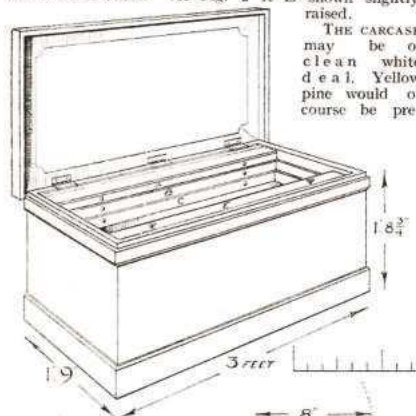
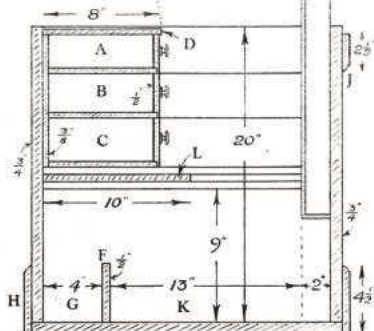

FIG. 1. TOOL CHEST. Size (approximately) 36 ins. by 21 ins. by 22 ins. high.
FIG. 2. CROSS SECTIONAL VIEW WITH DETAIL SIZES
From Fig. 1 (and more particularly from the sectional elevation, Fig. 2) it will be seen that there are three drawers, or tills (A, B, C), which slide forwards and backwards on runners. The top drawer has a hinged lid (D). The saw till (E) slides up and down inside the front of chest. At Fig. 2 it is shown slightly raised.
For the front and back two pieces (approximately 3 ft. by 1 ft. 8 ins., and  $\frac{3}{4}$  in. thick) will be jointed up to obtain the width. For the ends two pieces about 1 ft. 9 ins. by 1 ft. 8 ins. (also  $\frac{3}{4}$  in. thick) are required. These four sides, after squaring up, are dovetailed together, the dovetail pins being about  $2\frac{1}{2}$  ins. apart. Before glueing, trench both ends to take a length of stuff 4 ins. by  $\frac{1}{2}$  in. (F, Fig. 2). This forms compartment G (Fig. 2) for moulding and beading planes.
ment G (Fig. 2) for moulding planes. Alongside this is a larger compartment (K) for bench planes. For covering these compartments a sliding